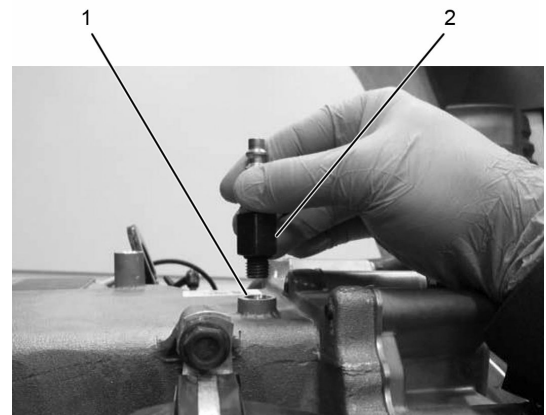

Figure 16
25. Install cooler plug - air inlet (Figure 16, Item 2) into EGR low-temp deaeration port (Figure 16, Item 1).